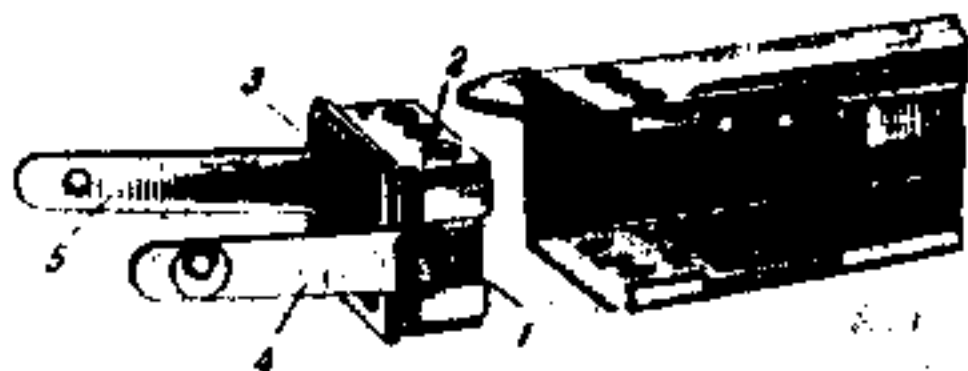

Figure 16. Back plate (1-3) of stamped receiver.
The back plate of the stamped receiver (fig. 16) has a groove (1) for holding the heel of the return spring guide tube, groove (2) for rear edge of the receiver cover; recess (3) for holding the forward edge of the stock; two projections (4 and 5) with holes for holding the stock by means of screws.